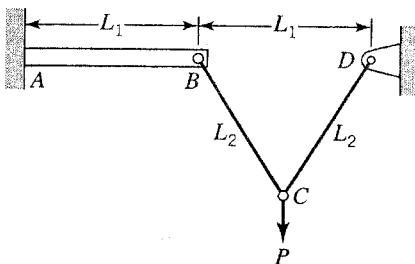

FIGURE P5.33
- 5.33.** The structure in Figure P5.33 is made up of a cantilever beam AB (E_1, I_1, A_1) and two identical rods BC and CD (E_2, A_2). Let A_1 be large compared with A_2 and L_1 be large compared with the beam depth.